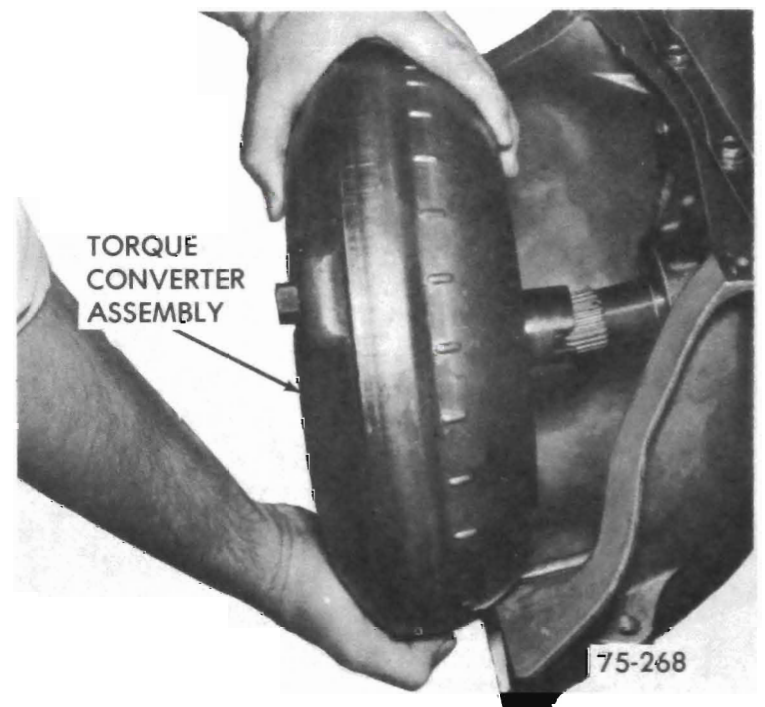

Figure 75-287
**C. Install Converter. See Figure 75-287.**